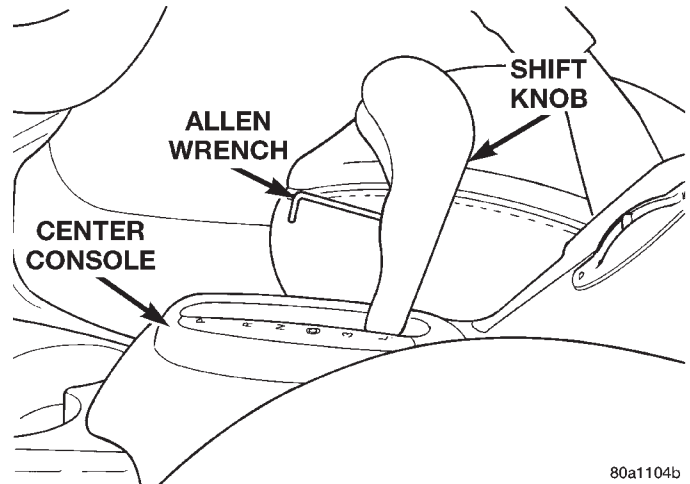
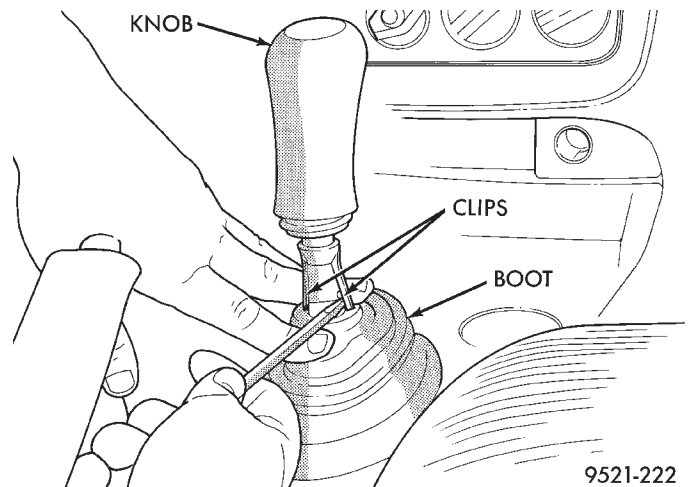
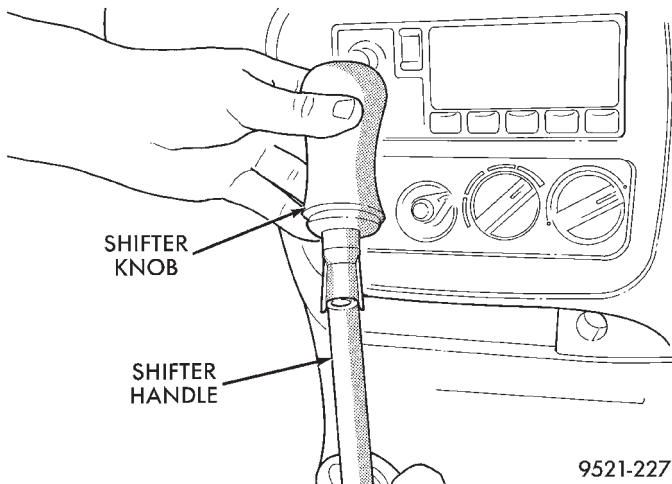

Fig. 194 Shift Knob Retaining Screw
Fig. 195 Gearshift Knob
Fig. 196 Gearshift Knob Removal
(2) If vehicle is equipped with an automatic transmission remove the shift knob from the shifter. The gear shift knob is attached to the shifter using a set screw (Fig. 194). Access to the set screw is from the front of the shift knob and is removed using a 2 mm allen wrench (Fig. 194).
(3) If the vehicle is equipped with a manual transmission remove the gearshift knob and shifter boot using the following procedure.
- Push shifter boot down to expose clips on gearshift knob and roll pin on shifter handle (Fig. 195).
- Pry the clips on the shifter knob away from the roll pin in the shifter handle using a flat blade pry tool (Fig. 195).
- Remove the shifter knob from the shifter handle, by pulling the shifter knob straight up (Fig. 196).
(17) Install screws attaching rear of center console assembly to console bracket.
(18) Install the shifter boot or PRNDL plate back in the center console.
(19) Install the shift knob on the shifter (Fig. 194) or (Fig. 196).